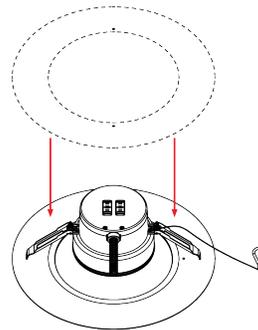

Fig. 13
1. Slide goof ring over fixture (Fig. 13).